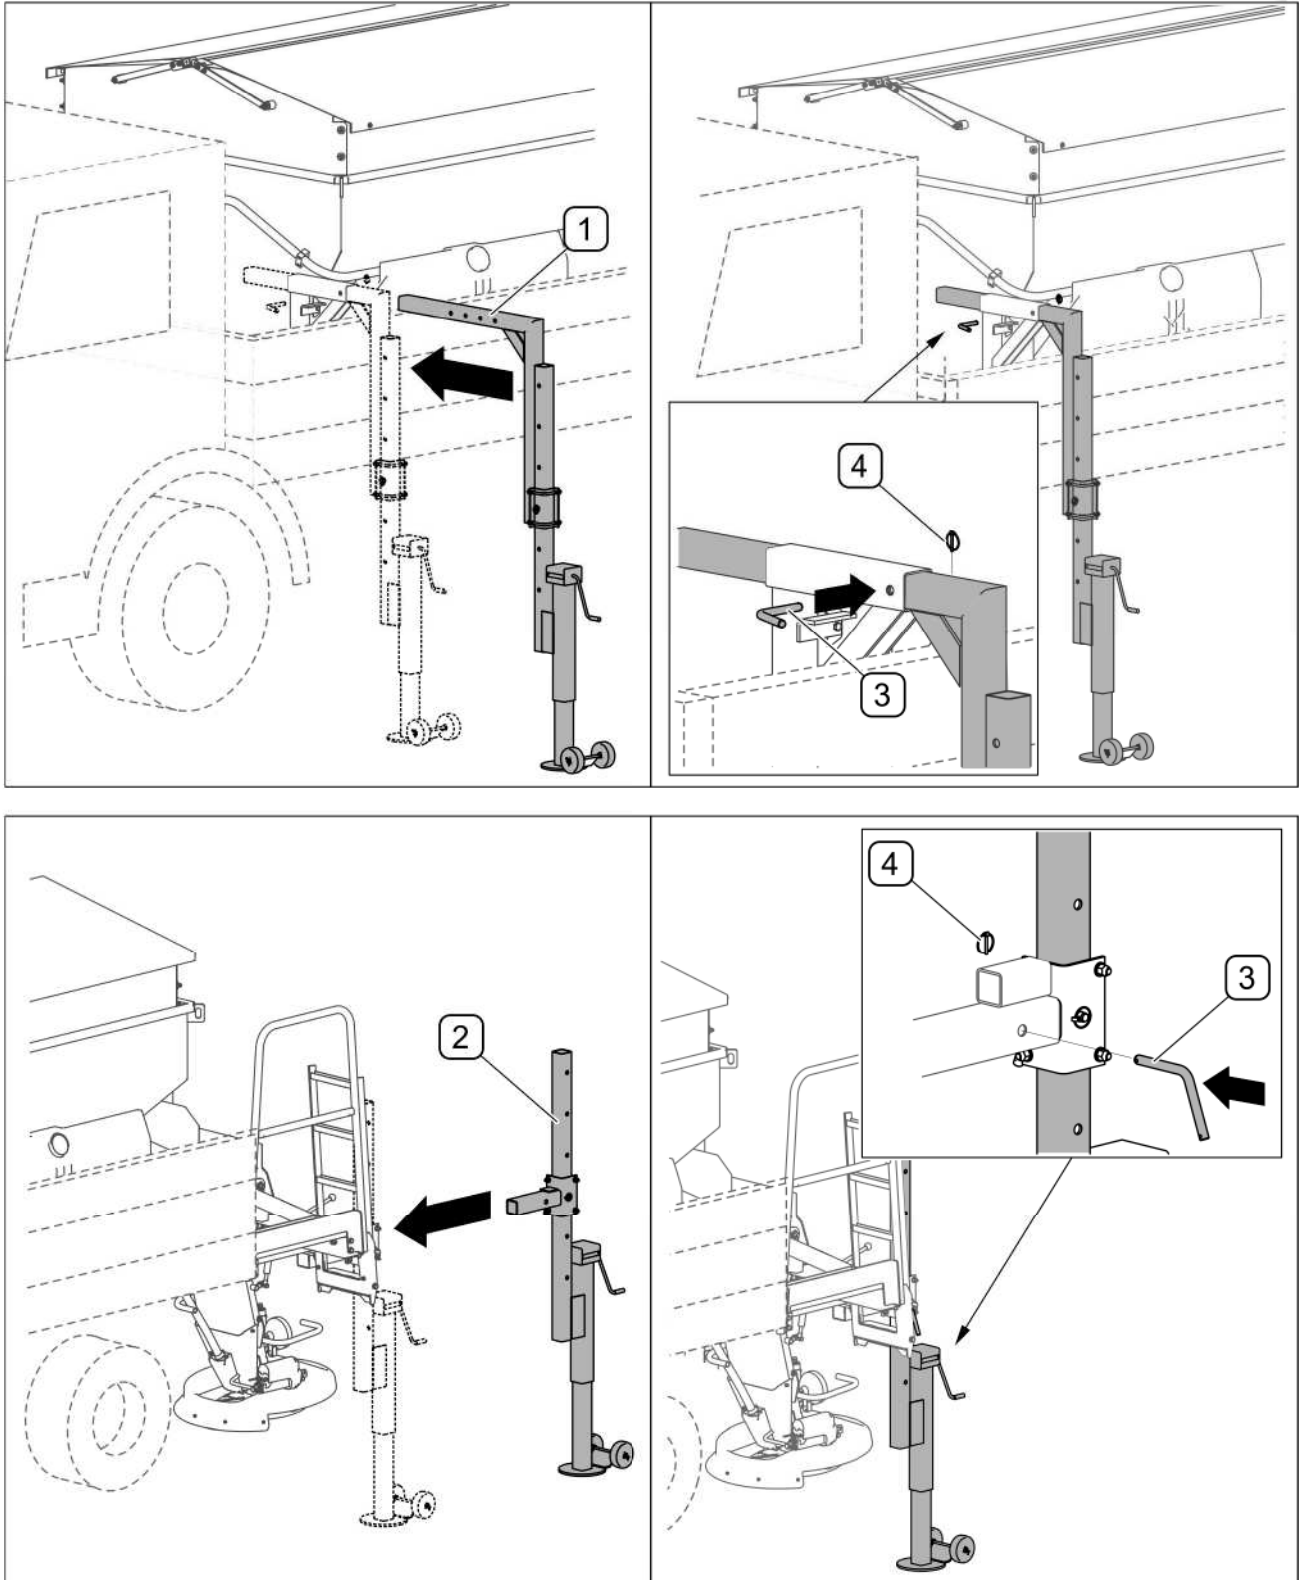

FIG. 4.35 Installing the parking stands
- Install front (1) and rear (2) parking stands (FIG. 4.35) and lock them using (2) linchpins (3) and cotter pins (4).